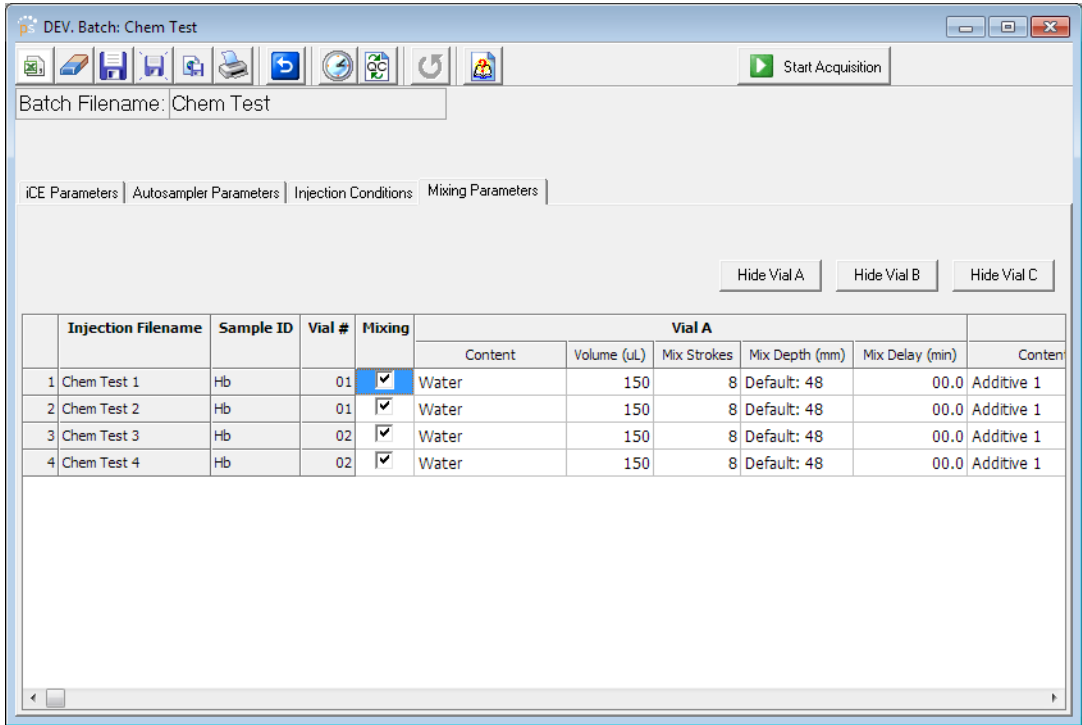

Figure 6-40: Mixing parameters tab in batch file.
- **Vial Volume** - This is the volume of the on-board reagent the autosampler adds to the sample vial. This setting is entered in the **Volume (µL)** column in the batch mixing parameters tab for the on-board reagent location (A, B or C) as shown in Figure 6-40.
- **Mix Strokes** - The number of mix strokes used is entered in the **Mix Strokes** column in the batch mixing parameters tab (Figure 6-40). For details on how to optimize Mix Strokes for your application, see "Number of Mixing Strokes" on page 156.